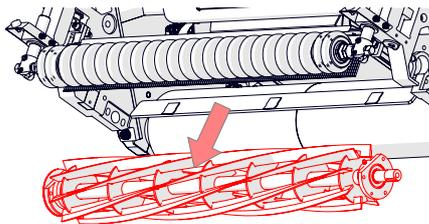

Fig. 16N - Remove the entire cylinder and bearings from the machine
15. Tip the machine back to gain access to the underside. Remove the cylinder (Fig. 16N). It is now free to be replaced/re-ground.